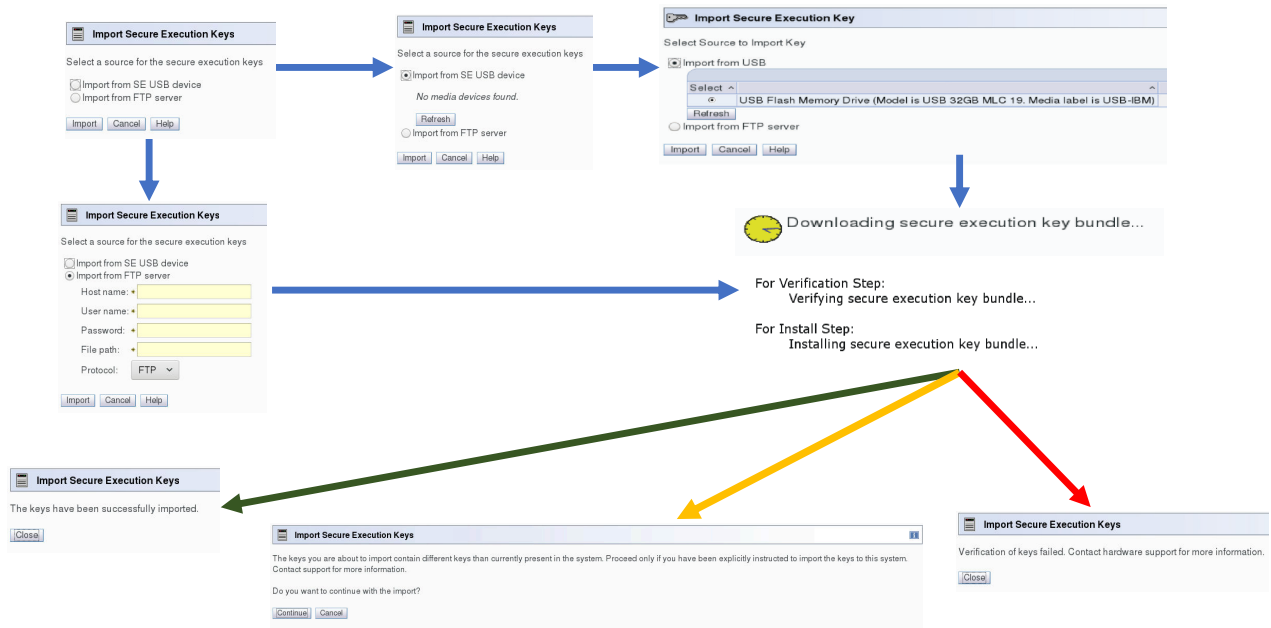

Figure 11. Import Secure Execution Keys task flow
- See Figure 11 on page 186 for a flowchart representation of the *Import Secure Execution Keys* procedure.